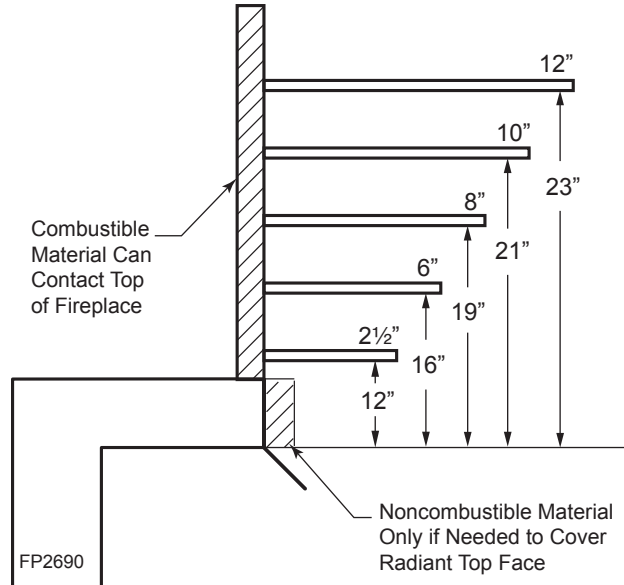

Figure 5 - Mantel Clearances
- 4. Mantel clearances:** The canopy supplied with the unit must be installed. If a combustible mantel is installed, it must meet the clearance requirements as shown in *Figure 5*. However, if lower mantel height is desired, refer to Page 14, *Figure 6*.